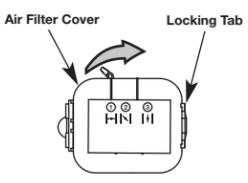

Fig. 19
- Swing the cover to the right and press closed so the air filter cover tab snaps into the slot on the back plate (Fig. 19).